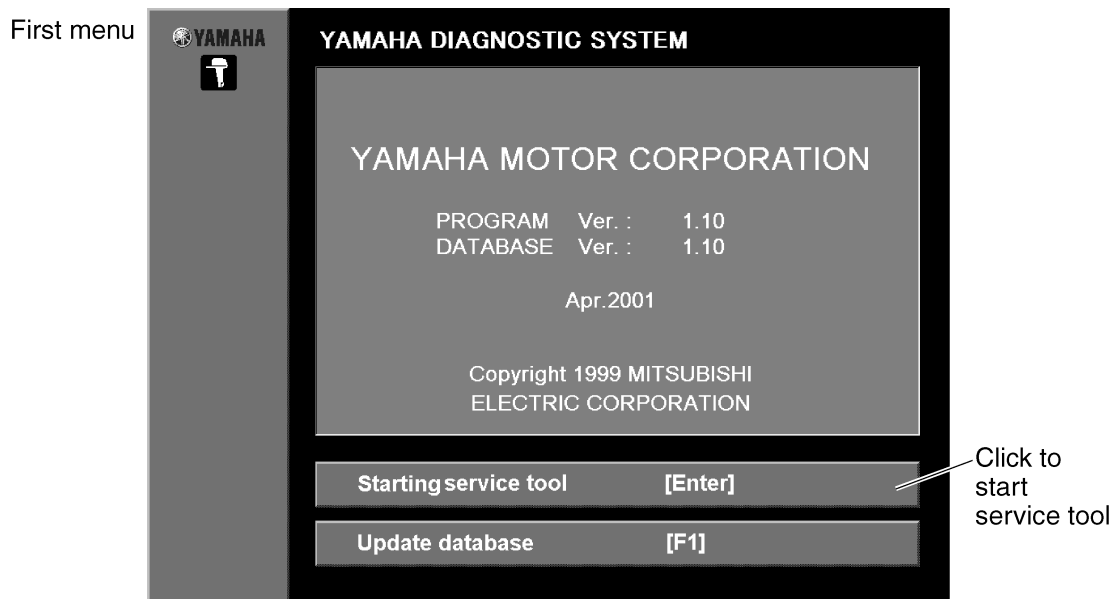

Fig. 6
4. Open the Yamaha Diagnostic System window. (Fig. 5) After about three seconds the display will automatically go to the first menu, or click or press any key to go to the first menu. (See fig. 6.)
5. Click the **Starting service tool [Enter]** button or press the Enter key on your keyboard. (Fig. 6)